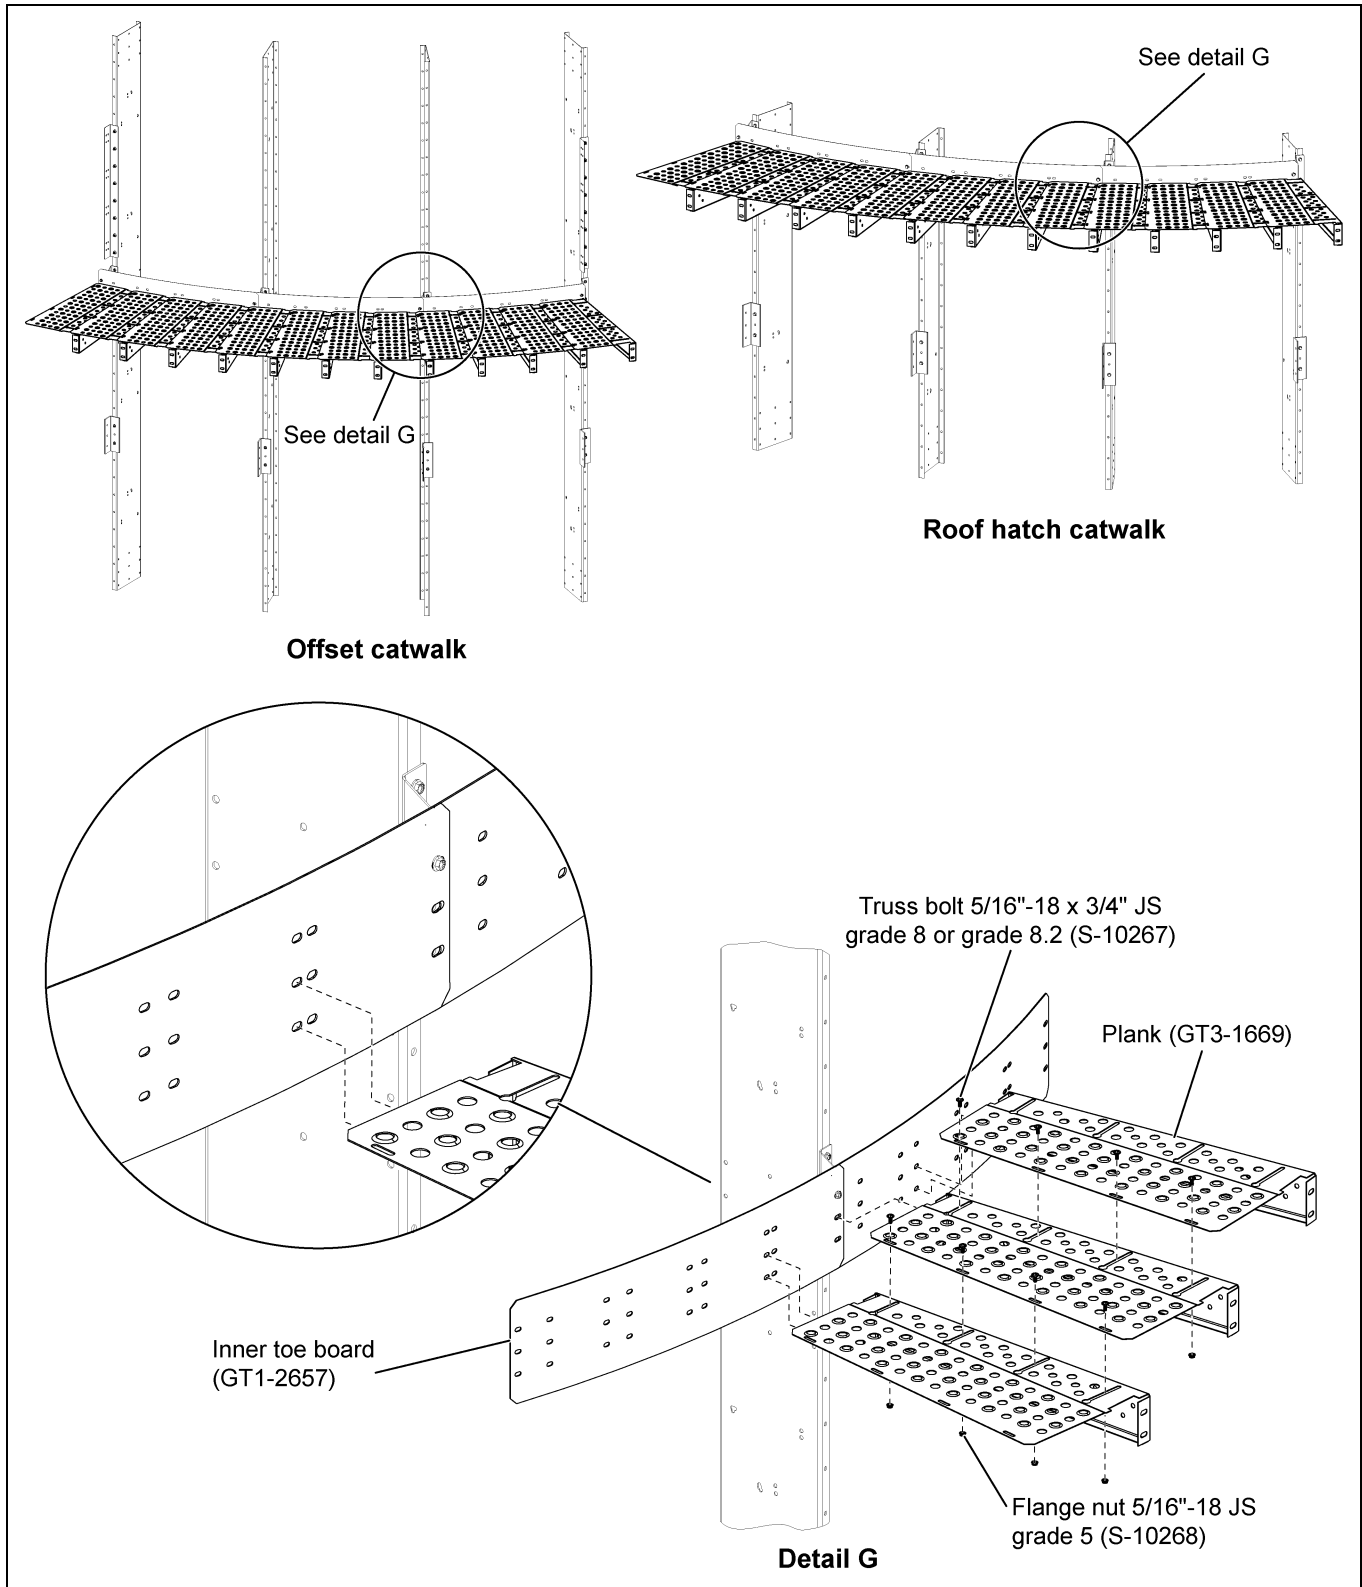

Figure 6M Inner Toe Board (GT1-2657) Plank Installation for Offset and Roof Hatch Catwalks
1. Install planks (GT3-1669) to bottom two (2) holes of the inner toe board (GT1-2657) using 3/8"-16 x 1" JS grade 8 or grade 8.2 bolts (S-7485) and 3/8"-16 ZN grade 5 nuts (S-968). (See Figure 6M.)